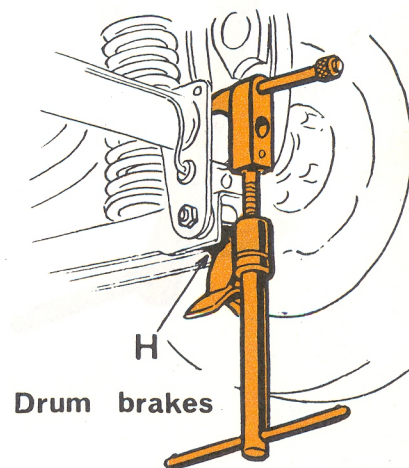

Fig. 3
- 3 The bracket "H" must be brought against the radius rod attachment as shown in fig. 3.